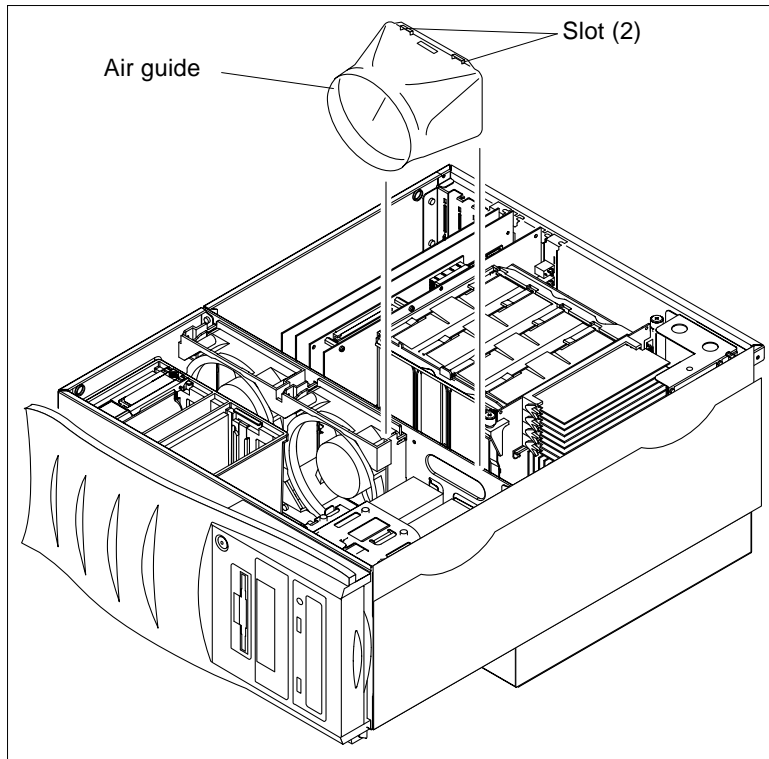

FIGURE 7-9 Removing and Replacing the Air Guide
3. **Remove the air guide as follows (FIGURE 7-9):**
1. **Replace the air guide as follows (FIGURE 7-9):**